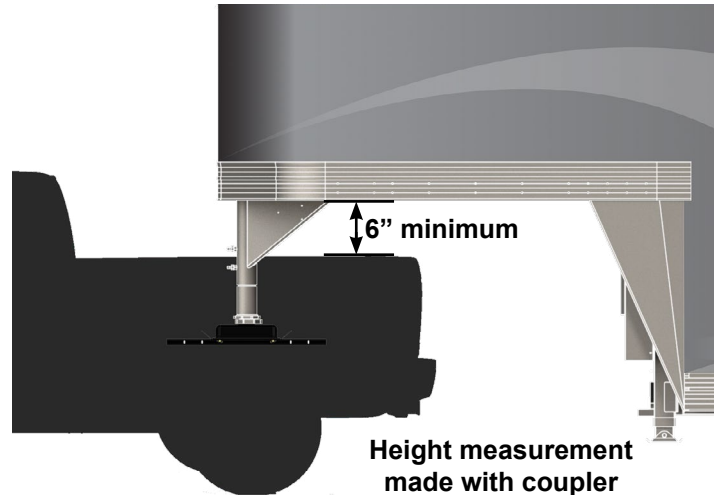

Fig.2
6. Utilize the holes in the wing to adjust the height of the gooseneck pin box so the trailer is level and there is a minimum of 6" of clearance between the top of the bed of the truck and the underside of the trailer (Figs.2 and 3).